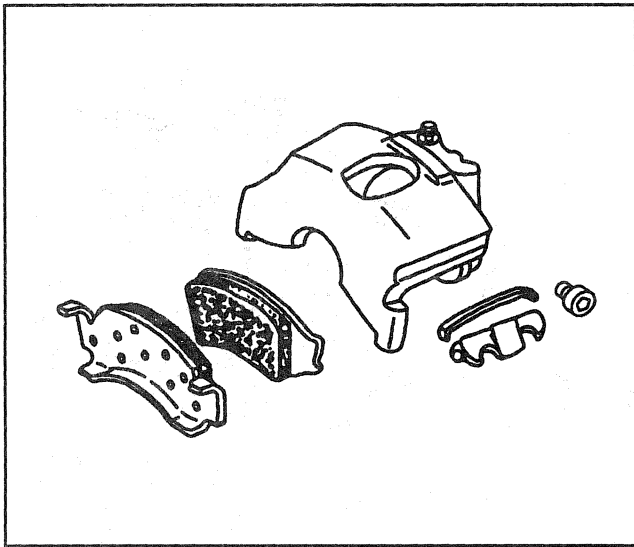

Figure 8—Replacing the Disc Brake Pads
2. Inboard lining and outboard lining (Figure 8).